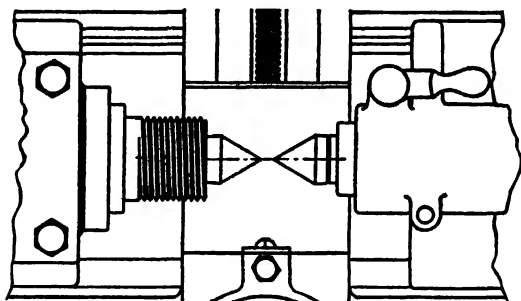

Fig. 12-12. Checking the alignment of the lathe centers. (*The South Bend Lathe Works*)
6. To ascertain if a lathe is in approximate alignment: (1) Note that the live center runs true and carefully bring the dead center to within $\frac{1}{16}$ in. of the live center (Fig. 12-12). A very little